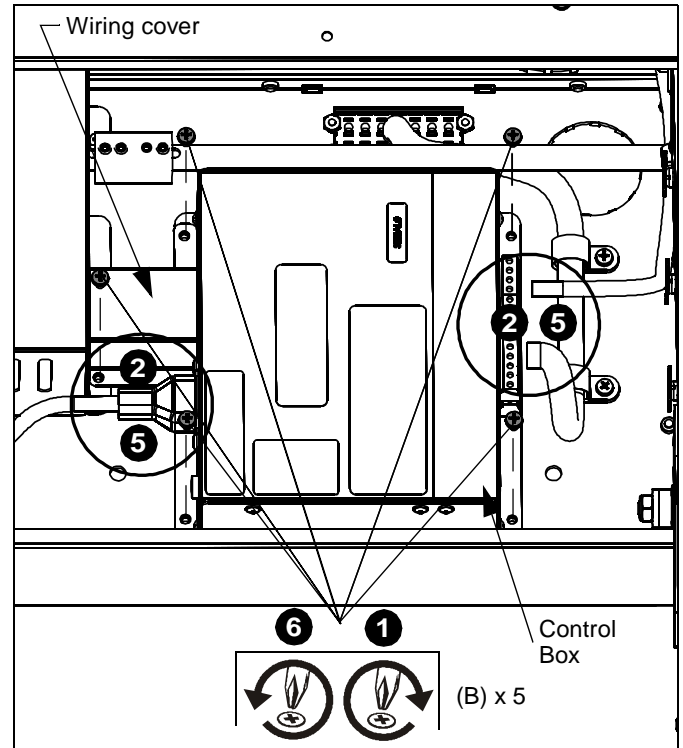

Figure 2
6. Disconnect power inlet and connector plugs on side of control box. (See Figure 2)
7. Loosen and remove five screws from control box and wiring cover. (See Figure 2)
1. Install the new control box (A) using five 8-32 x 5/16" Phillips head screws (B). (See Figure 2)
2. Reattach connector plugs and power inlet. (See Figure 2)